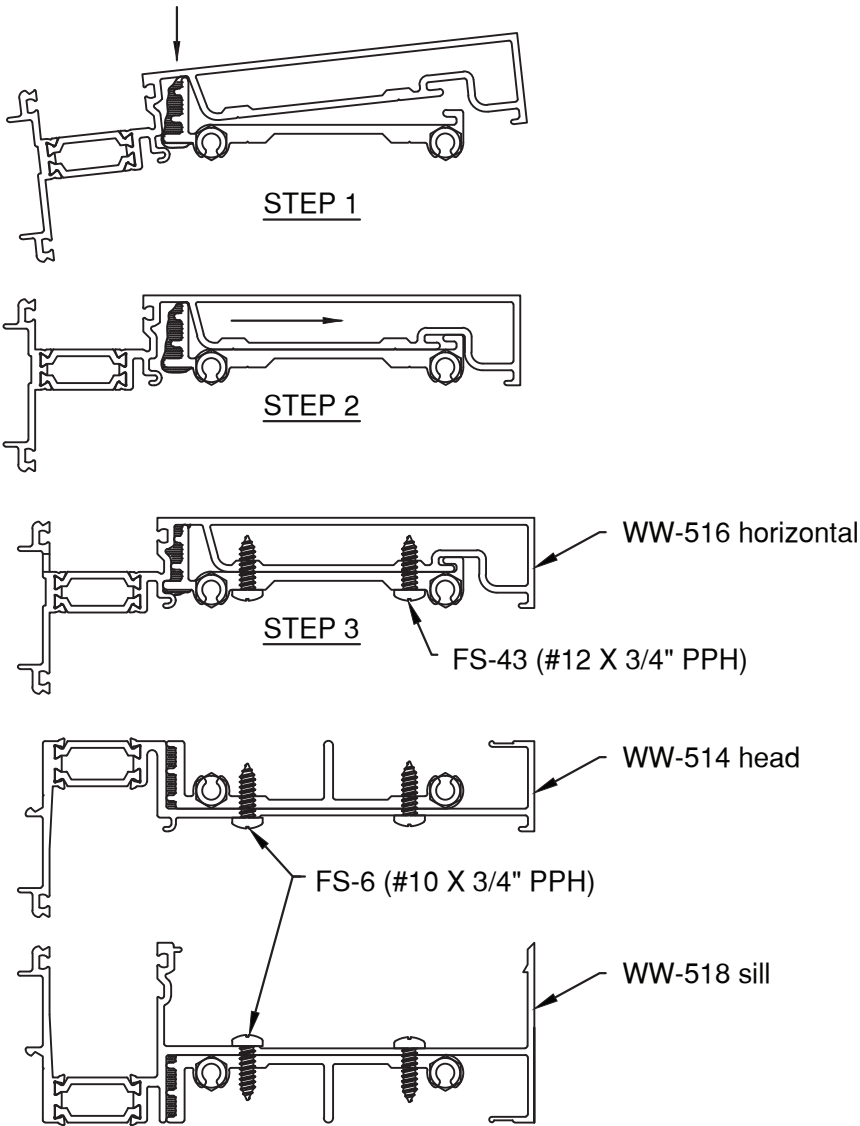
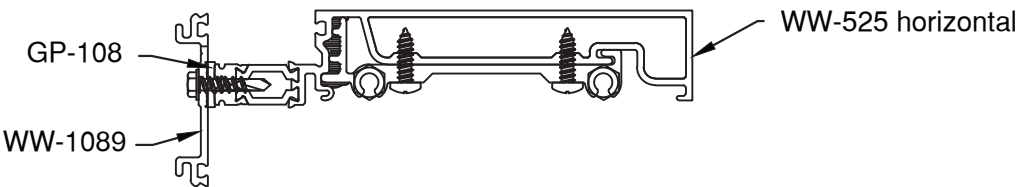
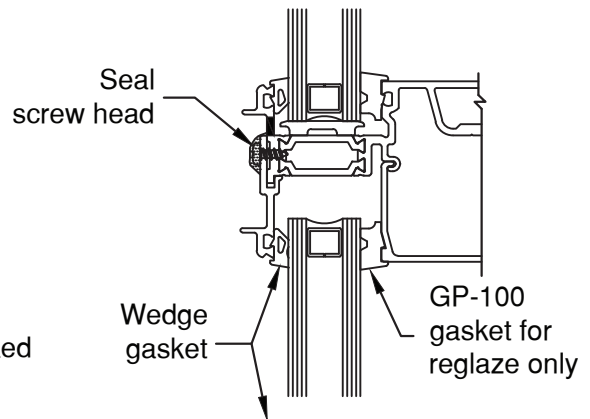

Figure 12
Figure 13
Figure 36
- 2.2 Seal around shear blocks prior to installing each horizontal mullion. **SEE FIGURE 9 & 10.** Install horizontal mullions as shown in **FIGURE 12, page 13** An alternate horizontal is available to allow exterior glazing of system. **SEE FIGURE 13, page 13** When installing alternate horizontal, attach pressure plate using FS-322 (#12 x 1" HWH Drill Flex) @ 9" o.c. and torque to 60 in/lbs. Secure horizontals to shear block with two (2) FS-43 (#12 x 3/4" pph) at each end of horizontal and to head and sill using (2) FS-55 (#10 x 3/4" pph).
SEE FIGURE 12, Avoid a buildup of sealant on the gasket surfaces or in the gasket reglets.
- 3.16 It may be necessary on lites located adjacent to building floors and mid-anchors to exterior glaze these lites. Horizontal with removable pressure plate must be used at top of lite to allow for exterior glazing. SEE **FIGURE 13, page 13** If exterior glazing SSG system, WW-300 bridges will be installed at each horizontal **See FIGURES 36 & 37, page 32.**